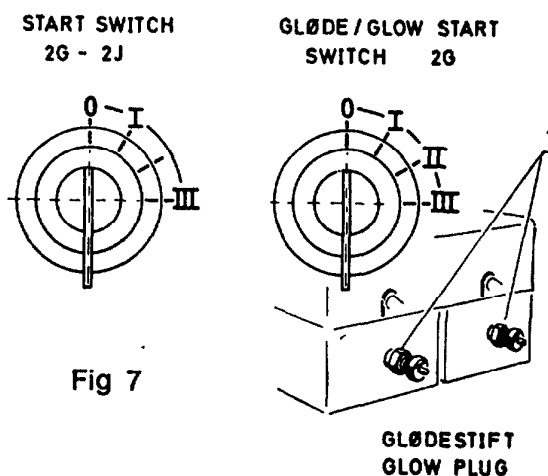

Fig 7
- 0 OFF: Insert key (or pull out) fig 7).